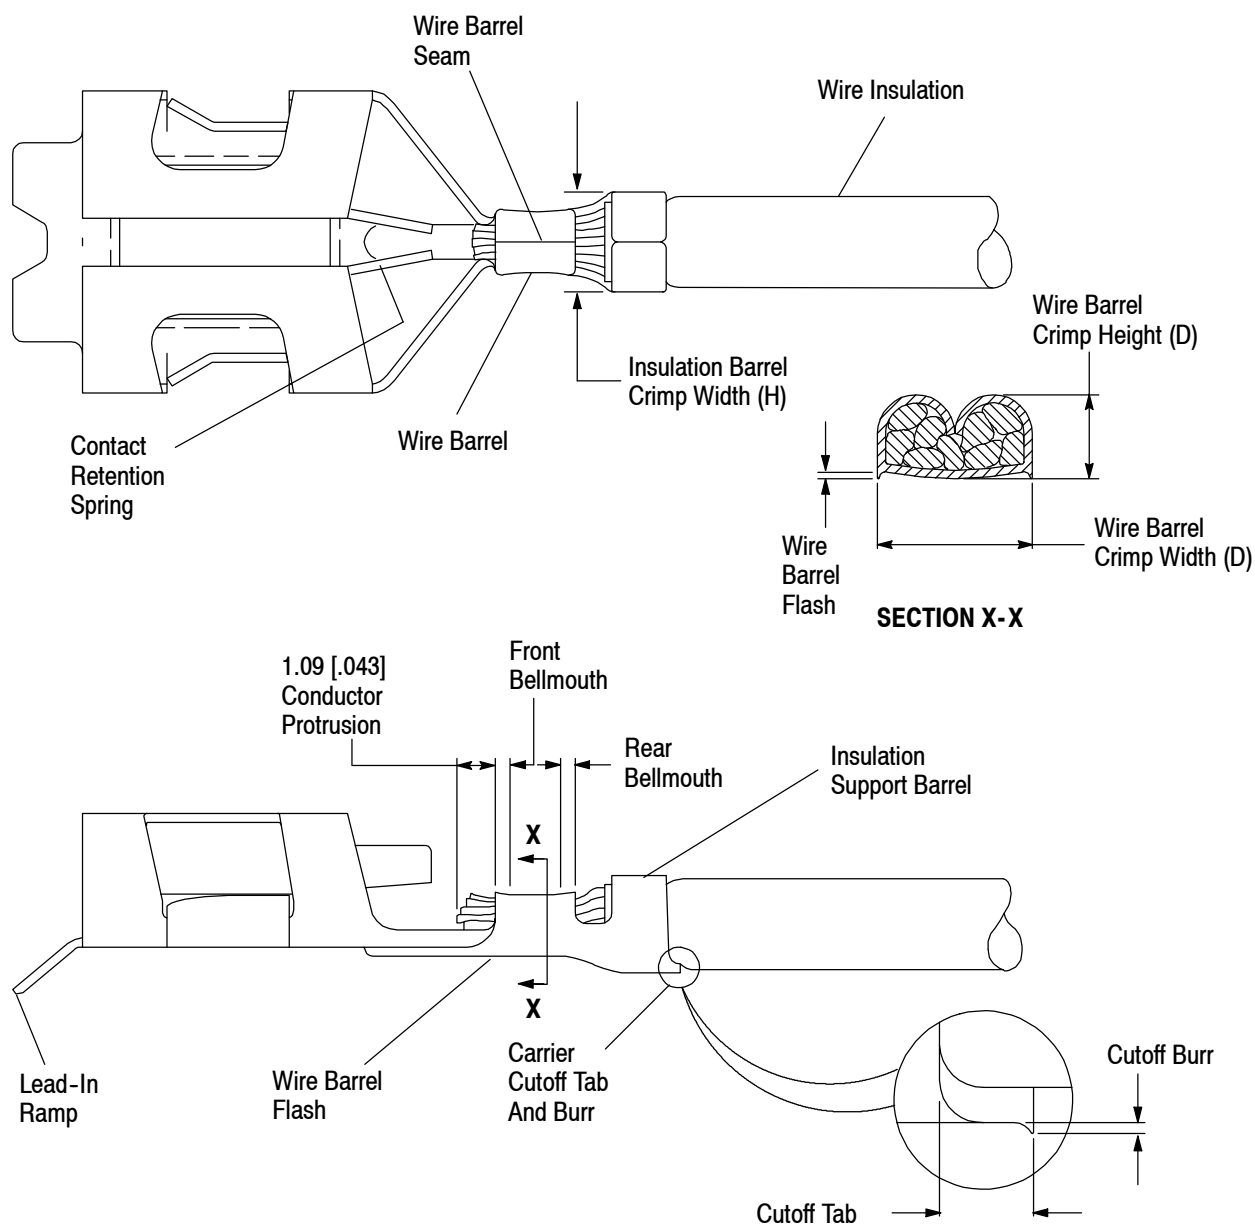

Figure 4
3.6. Crimp Requirements (See Figure 4)
- B. The crimp height and insulation diameter information is found in the table in Figure 4.